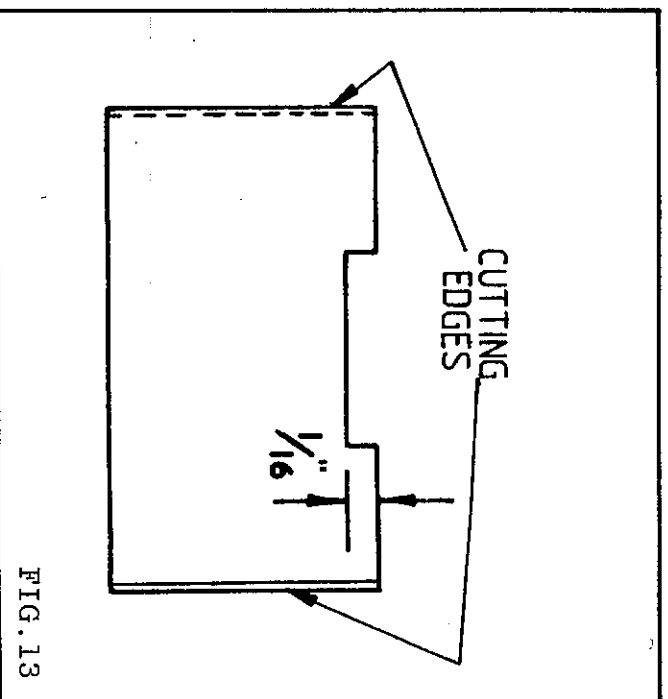

FIG. 13
- 10) Always notch cutters for french spindles as shown in FIG.13 for the spindle locking bolts to locate the cutter.